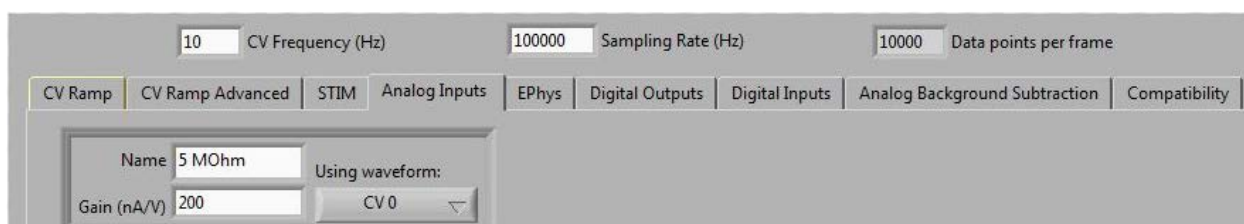

Figure 5-5: Analog Inputs Tab on the Experiment Setup in HDCV
13. On the Analog Inputs tab, enter the appropriate gain for the headstage amplifier used. The standard Pine Research headstage amplifier gain is 200 nA/V (see: Figure 5-5). Entering a Name is optional.